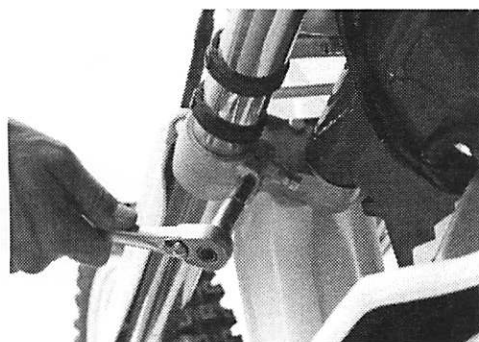

Figure 5.8
10. Loosen the 4 lower triple clamp 10 mm head pinch bolts. (Figure 5.8)